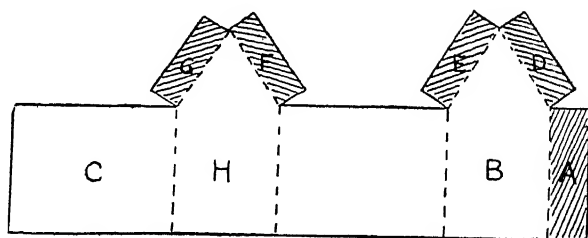

FIG. 1
Methods of joining Cardboard and Paper Edges. (1) Leaving a flange. In Fig. 1 the shaded portions represent flanges—flange A is for joining side of house B to C, flanges D, E, F, G
If Fig. 1 is made of cardboard, flange A must have the surface